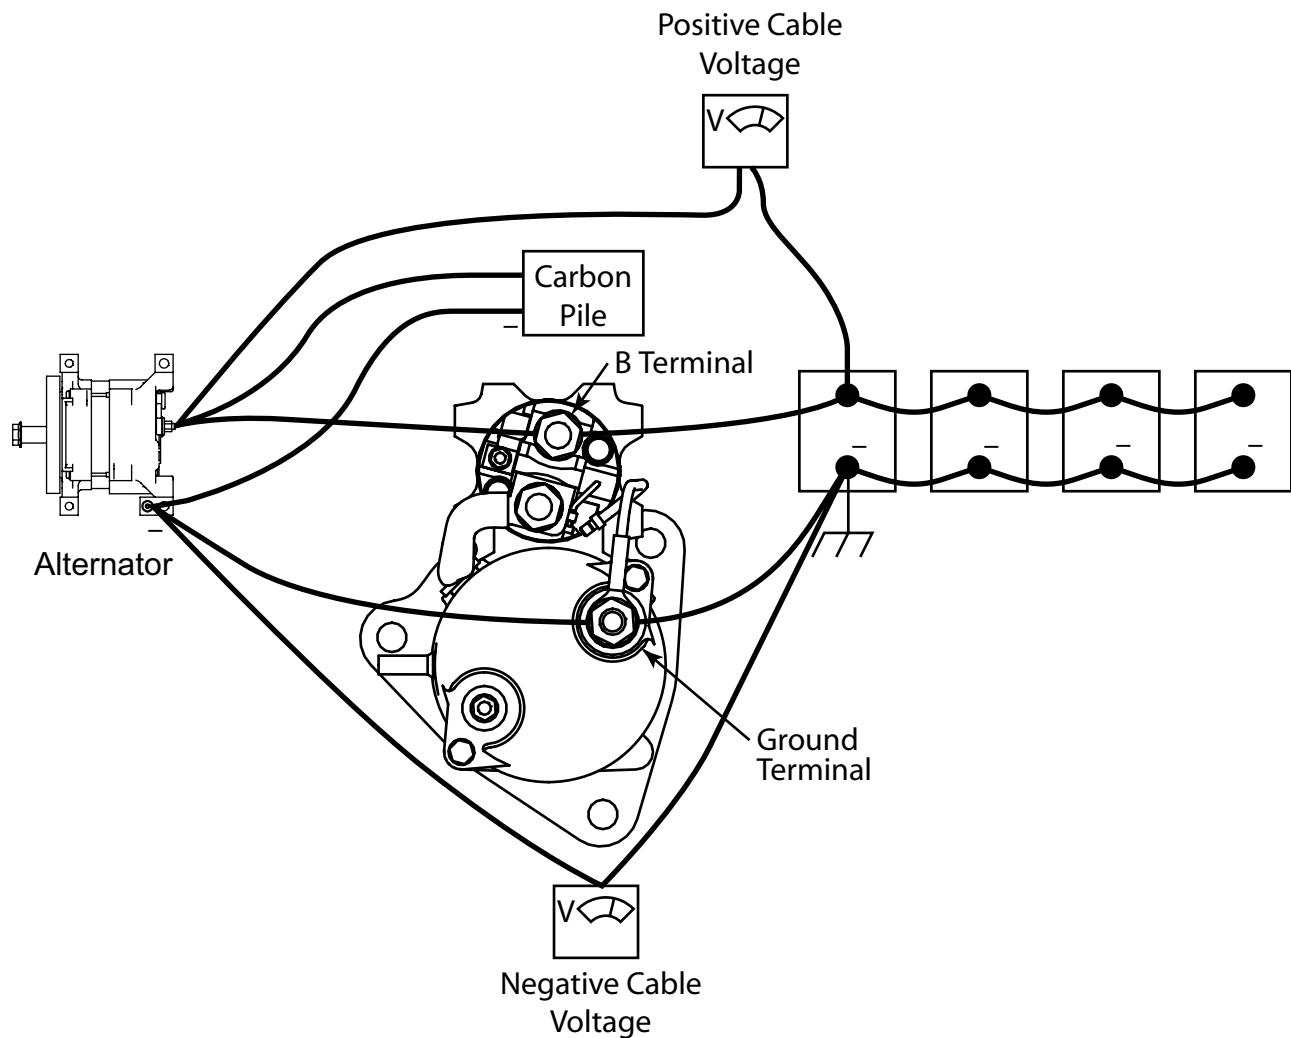

Figure 18: Step 3B – Individual Cable Check
- 1) With engine off, connect load tester and voltmeter as shown in Figure 18
- 3) Using the wiring configuration in Figure 18, obtain: